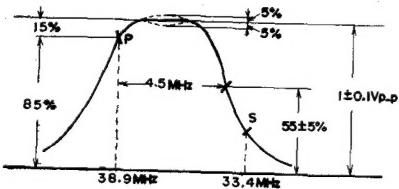

Figure 9
- Adjust coils (L205 and L206) to obtain the waveform shown in figure 9.